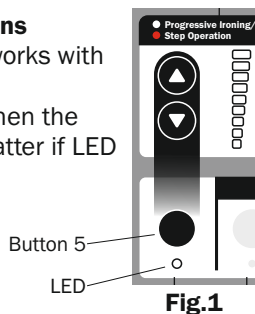

Fig.1
This is a two function selector and works with relation to **button 5** status (**Fig.1**).
a. If there is no value in selector 1 then the machine does normal operation, no matter if LED is ON or OFF (**Fig.1**).
Step 1. Place the vamp in the hot station mould as shown in Figure 1